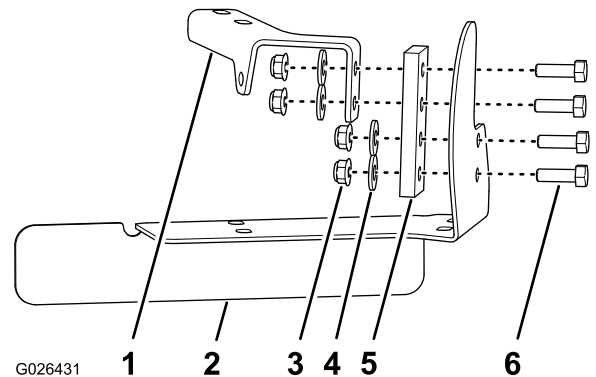
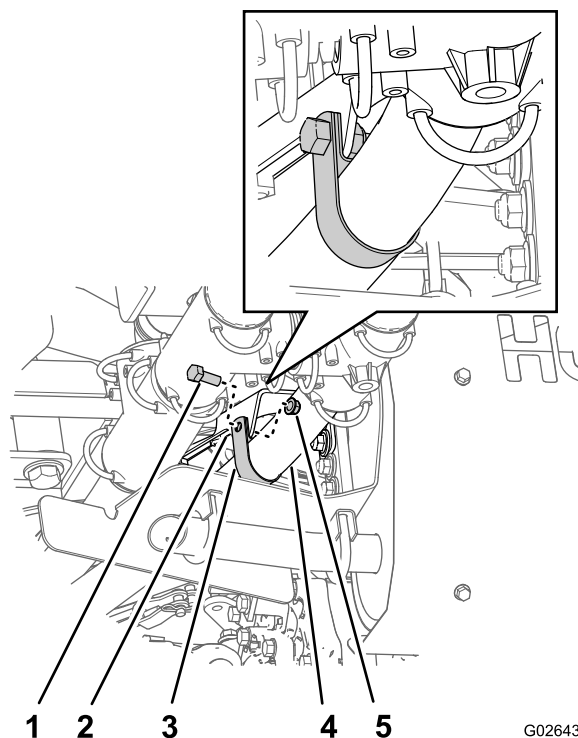

Figure 8
Figure 15
1. Align 2 of the holes in an exhaust hanger with the 2 holes in the muffler bracket as shown in Figure 8.
2. Assemble the exhaust hanger to the muffler bracket with 2 bolt (5/16 x 1 inch), 2 washer, and 2 flanged locknuts (Figure 8).
3. Align the 2 remaining holes in the exhaust hanger with the 2 holes in the tail-pipe bracket as shown in Figure 8.
4. Assemble the exhaust hanger to the tail-pipe bracket with 2 bolts (5/16 x 1 inch), 2 washers, and 2 flanged locknuts (Figure 8).
1. Slip the clamp (1-1/4 inch) around the 1-1/4 inch hose that is adjacent to the exhaust hanger for the tailpipe bracket (Figure 8 and Figure 15).
2. Align the hole in the clamp with the hole in the lug of the muffler bracket (Figure 15).
3. Attach the clamp to the bracket (Figure 15) with the bolt (5/16 x 1 inch) and flanged locknut (5/16 inch).